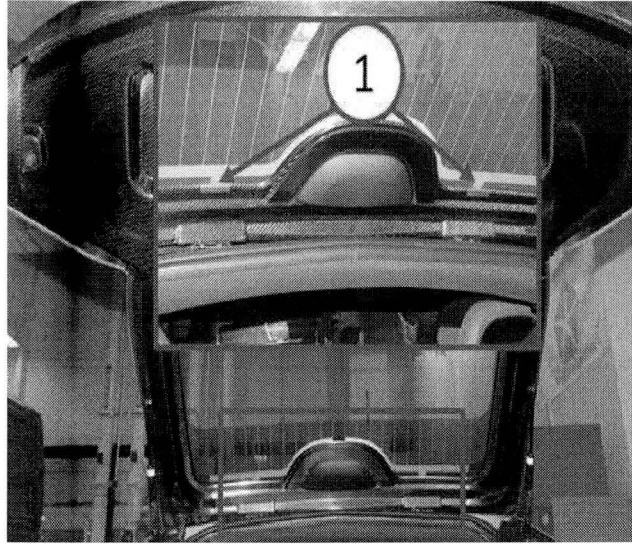

Fig. 2 Anti-Squeak Tape Installation
- a. Yes>>> Clean the liftgate edge with isopropyl alcohol. Cut Mopar p/n 05019054AA anti-squeak tape in 1/4"(6.35mm) pieces and apply one piece at the top left and right side of the liftgate edge (Fig. 2). The tape is to wrap around the edge of the liftgate panel, providing a barrier to it and the glass.